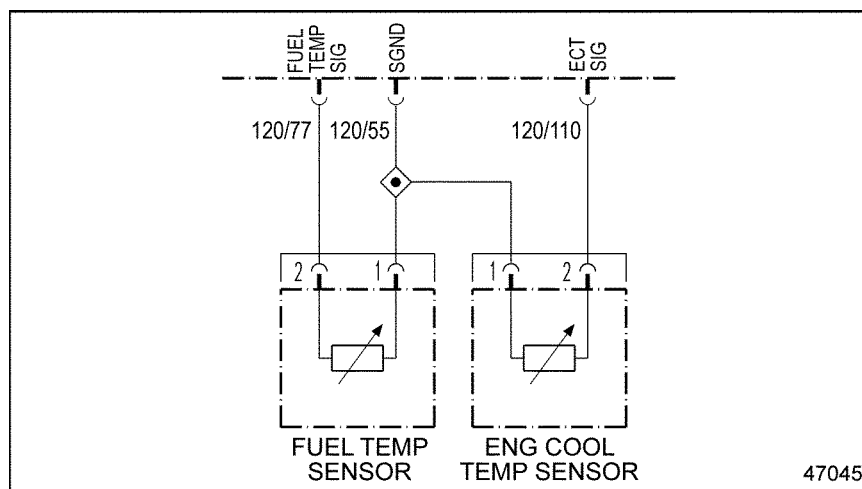

Figure 13-3 Supply Fuel Temperature Sensor
4. Measure the resistance between pin 1 of the SFT Sensor harness connector and ground. See Figure 13-3.